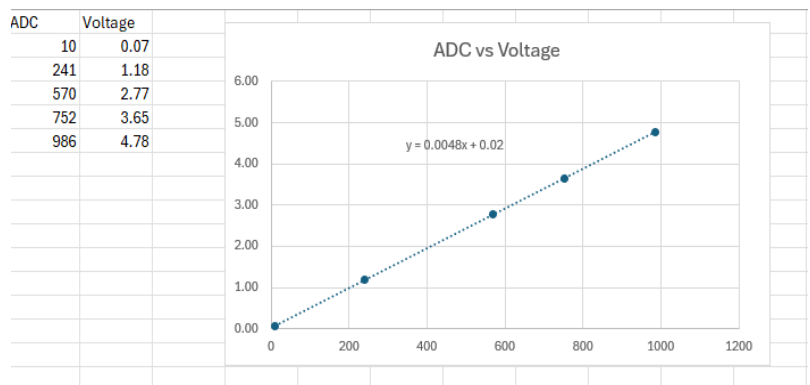

Figure 4: Sample ADC vs Voltage plot. For this set of data minimum voltage is 0.02V, the maximum voltage is 4.96V, and the resolution is 0.0048V.
1. Our program for this activity will be relatively simple. We need a program that reads one of the ADC pins and prints to the serial monitor. The flowchart for such a program is shown in Figure 4.